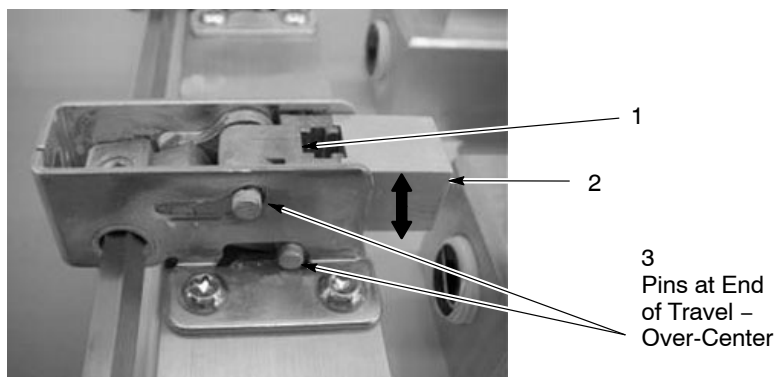

Figure 8-4 Pawl Adjustment – Latch Shown Over-Center
Figure 8-4 shows a latch extended until it is over-center. The latch pawl (2) is normally installed with the top surface flush with the top surface of the pawl mount (1). With the lance clamped down, the latch should not go over-center (fully extended). The latch pins (3) should not be up against the ends of their slots.